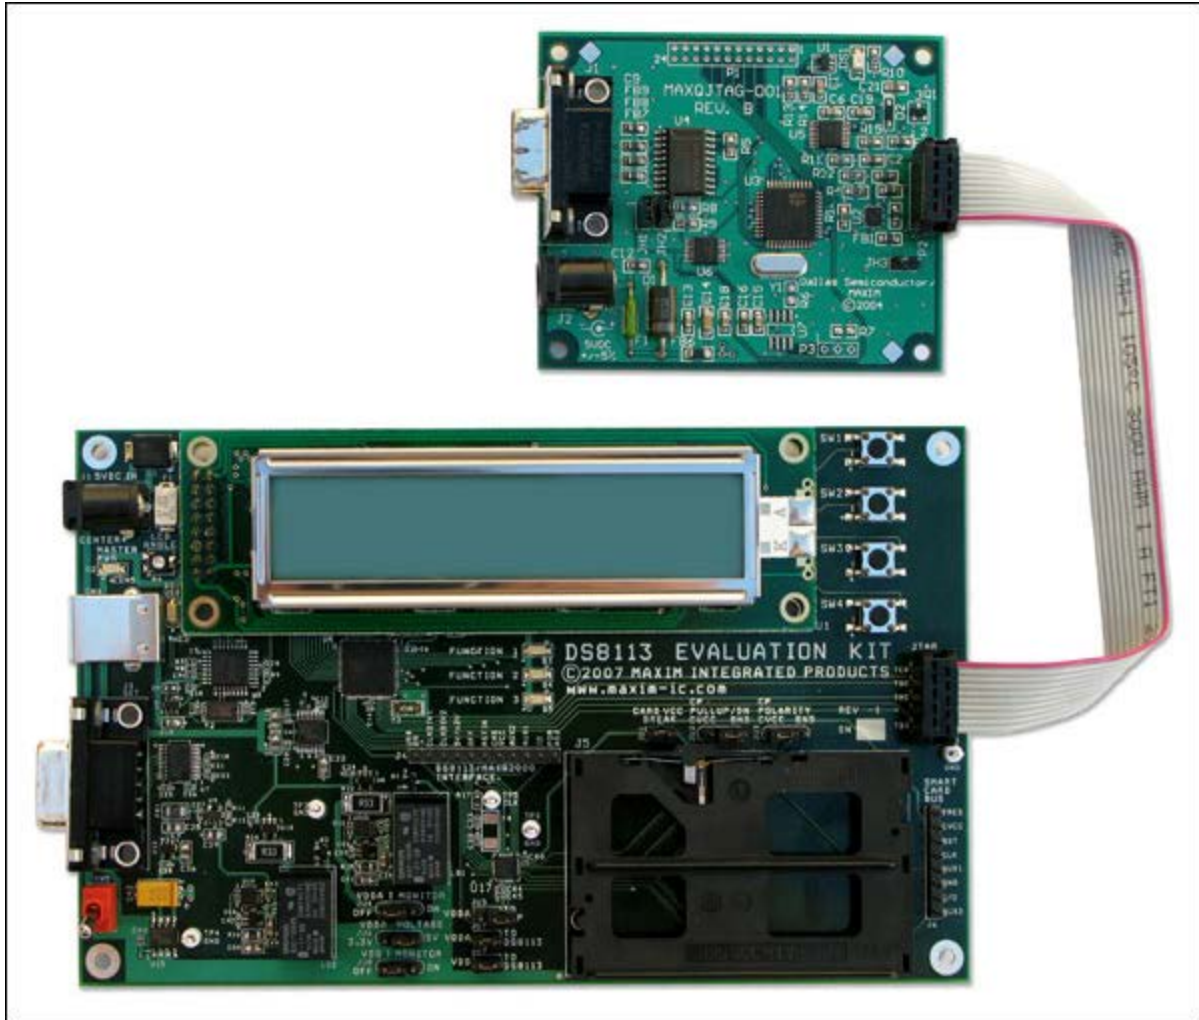
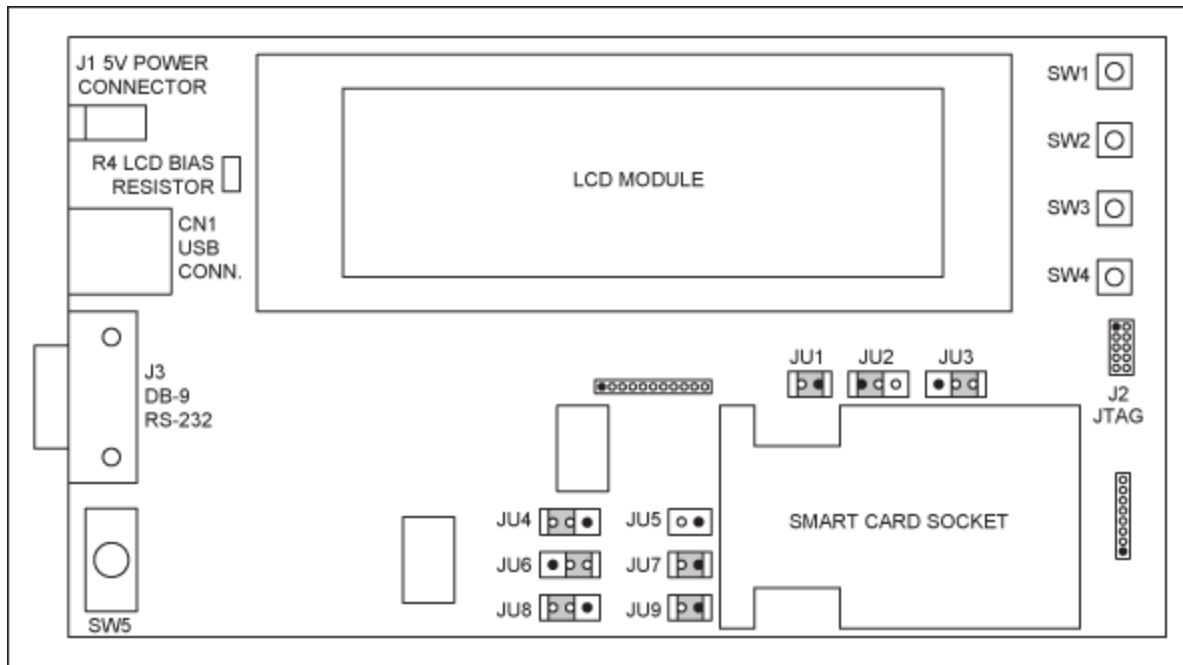

Figure 1. DS8113 Evaluation Kit and JTAG boards.
Figure 2. DS8113 board jumper locations.
The DS8113 EV kit board and the supplied JTAG board are shown in **Figure 1**. The EV kit board contains a DS8113 and a MAXQ2000 microcontroller that can be programmed to provide a complete EMV smart-card interface. The software library functions for this interface are available either on the CD_ROM provided with the kit or available for download free from the Maxim web site in the file AN4200_sw.zip. The kit board also contains a smart-card socket and a two-line by 20-character LCD module.
1. Connect jumpers 1 through 9, as described in **Table 1**. The locations and jumper positions are illustrated in **Figure 2**. Note that in this figure, the location of pin 1 of the jumpers and connectors is identified with a darkened circle.
2. Connect the JTAG board to the EV kit board using the supplied 10-conductor ribbon cable. Be sure to note the polarity of the connections. On the JTAG board, pin 1 of the JTAG connector, P2, is located on the bottom-right when the board is oriented component-side up with the DB-9 connector on the left. On the EV kit board, pin 1 of the JTAG connector, J2, is located on the top-left, as shown in Figure 2 by the darkened pin. The side of the ribbon cable with the red stripe should be connected to the same pin of the JTAG connector on both boards. Figure 1 shows the proper configuration of the two boards.
We will now run a program to display a message on the EV kit's 2-line by 20-character Liquid Crystal Display (LCD). Before beginning, however, we must set the LCD contrast adjustment, so that the message is displayed appropriately when the program is executed. First, apply power to the board. (Note that the LCD may be blank or may display some black rectangles in individual character positions.) Locate the LCD bias resistor, R4, on the board (see Figure 2 above). Using a small screwdriver, adjust the resistor until individual 5 x 7 dot blocks appear in the display. Slowly adjust R7 until the blocks just disappear. This sets the LCD's contrast so that the characters will be visible, but spaces will not.